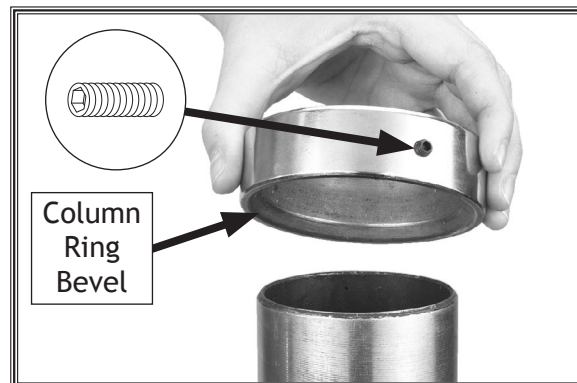

**Figure 14.** Bevel and rack seated correctly.
9. Seat the rack tapered point into the bevel that is cut into the column support tube (see **Figure 14**).